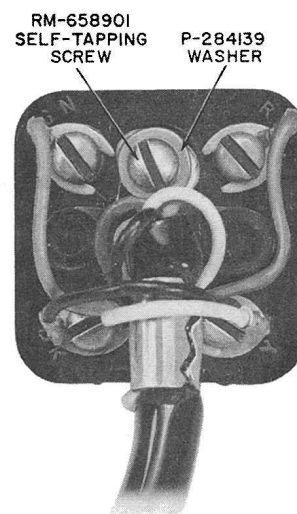

Fig. 36 — D4BP Cord Terminated on 283B Plug
Note: An RM-658901 self-tapping screw and a P-284139 flat washer will be shipped with each 283B plug (Fig. 36).
(5) Bend cord tips and dress red and green conductors so they lie next to the cover mounting screw (Fig. 36).
(6) Seat base of plug in cover before tightening screws. This prevents pinching of conductors.